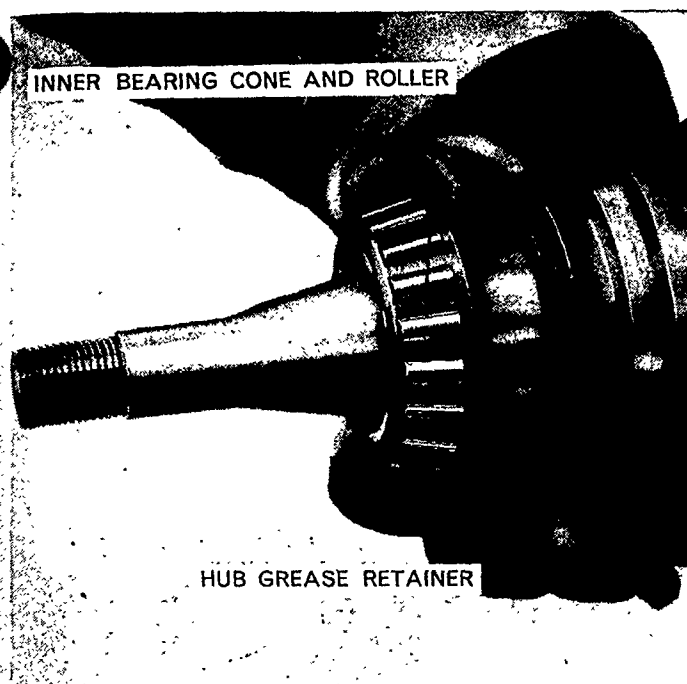

Figure 9
6. Install the wheel hub grease retainer on the wheel spindle. Install as shown in Figure 9.